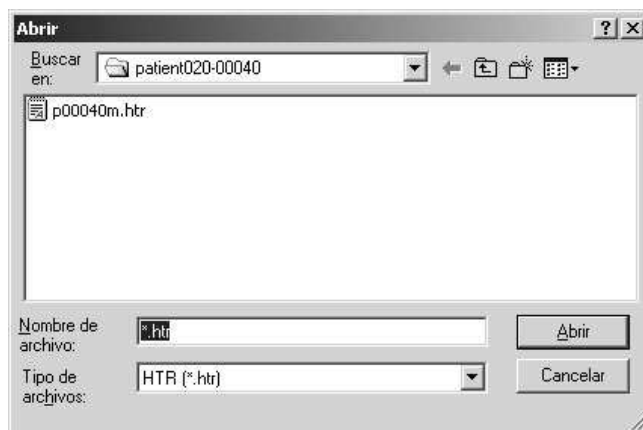

Figure 16
2. In the opening dialog box browse to the monitoring data folder, then select the *.htr file and then click the Open button. In the example below (Figure 16), the monitoring data folder is "c:\eegdata\patient020-00040" and the *.htr file is "p00040m.htr".